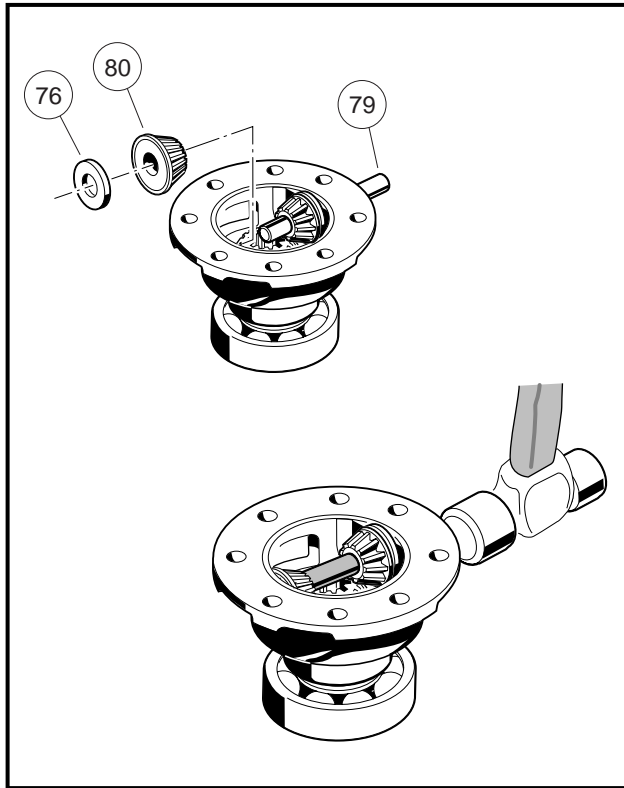

Figure 16-69 Second Idler Gear
4. Position the other thrust plate (76) and idler gear (80) in the carrier case. Continue to drive the pin (79) through them and the wall of the carrier case until the ends of the pin are flush with the sides of the carrier case (**Figure 16-69, Page 16-30**).